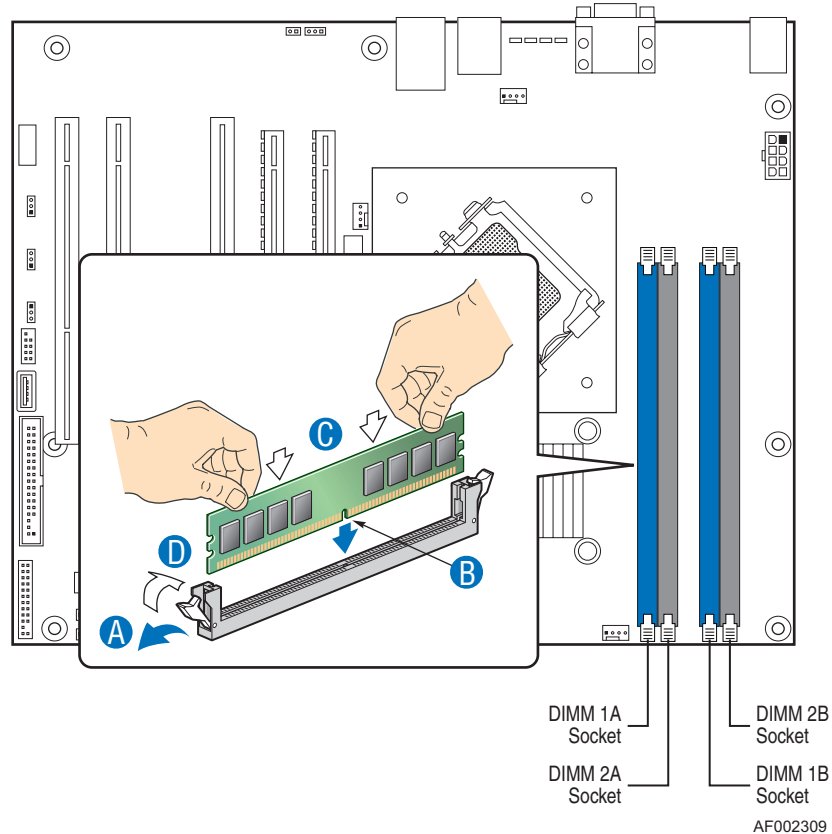

Figure 99: Upgrading the Memory
4. Press the plastic clips at the outer edge of the socket away from the memory module. This ejects the memory module from the socket (see “A” on Figure 99). Do not touch the module's metal "fingers." Store the module in an anti-static bag (available at electronic supply stores) or a cardboard box.
5. Align the new module with an empty memory socket. Make sure the notch on the module aligns with the key in the socket. The module is designed to install into the socket in only one way (see “B” on Figure 99).
6. Press the module firmly into the socket (see “C” on Figure 99). If you have difficulty installing a module, do not force it! Carefully remove the module, then check the alignment of the module's notch with the one in the socket. Then re-install the module.
7. Make sure the locking clips at either end of the module click closed (see “D” on Figure 99). If the brackets do not secure themselves to the module, carefully remove the module, then reinstall it.